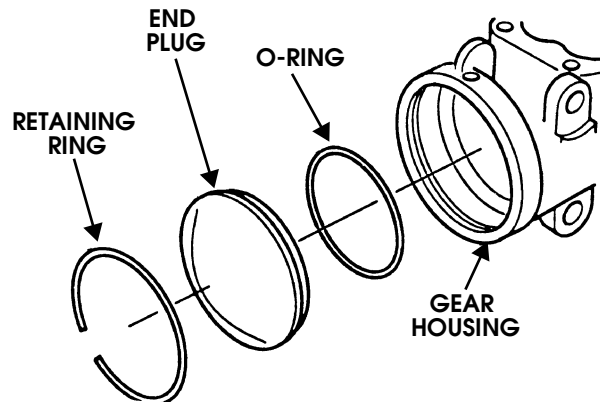

Figure 8-33: End Plug and Seal Removal
4. Remove end plug (Figure 8-33).
5. Remove O-ring seal from housing (Figure 8-33).